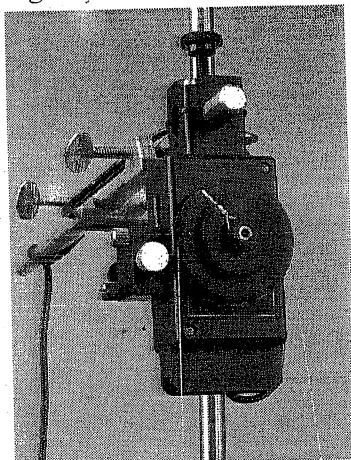

Figure 4: Tying the String
4. Cut a string to a length of about 1.5 m. Tie the center of the string around the smallest step of the Rotary Motion Sensor pulley. See Figure 4. Thread both ends of the string through the side hole on the largest step of the pulley. Wrap each end of the string once around the largest step of the pulley.